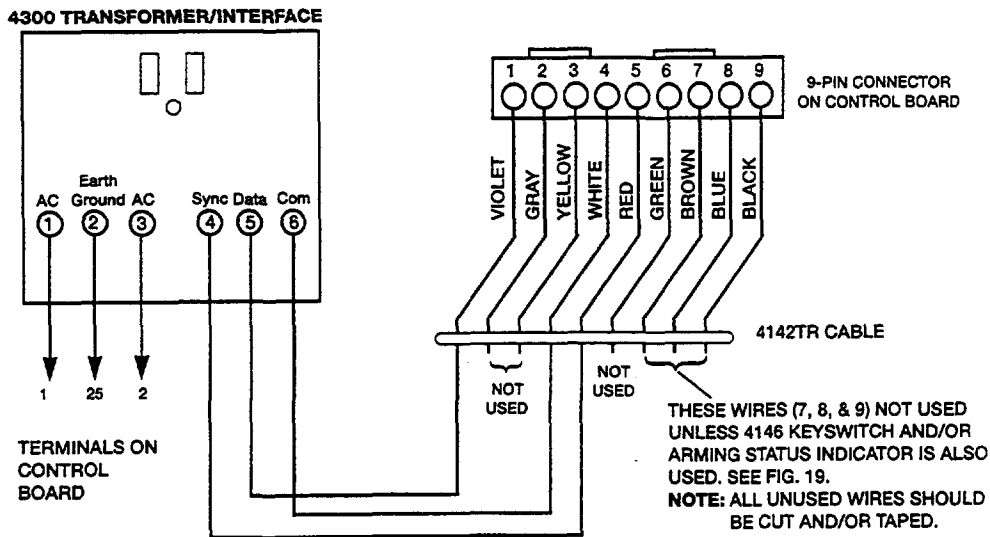

Figure 4. Connections of 4300 Transformer To The Control Board
- b. Wire the other three terminals (Sync, Data, Com) on the 4300 transformer. Wires from these terminals must be connected to a 9-pin connector on the control board (using a 4142TR cable supplied with the 4300 transformer), as shown in Figure 4. These particular wires can be 24 gauge or larger, and can be run along with the AC and ground wires to the control panel.